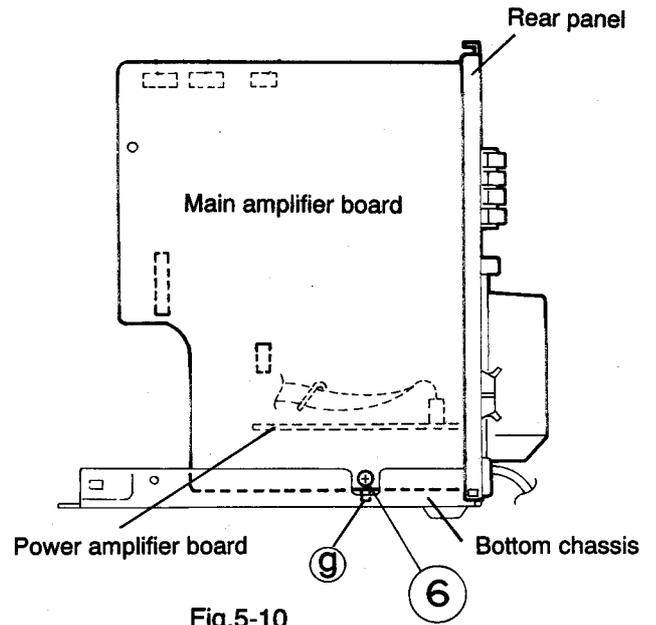

Fig.5-10
4. Remove the screw ⑥ fastening the main amplifier board and bottom chassis to the side panels of the main unit. (See Fig. 5-10)
8. Remove the rear panel assembly from the bottom chassis by disengaging the protrusion ⑪ of the main amplifier board from the cutout in the bottom chassis. (See Fig. 5-10)